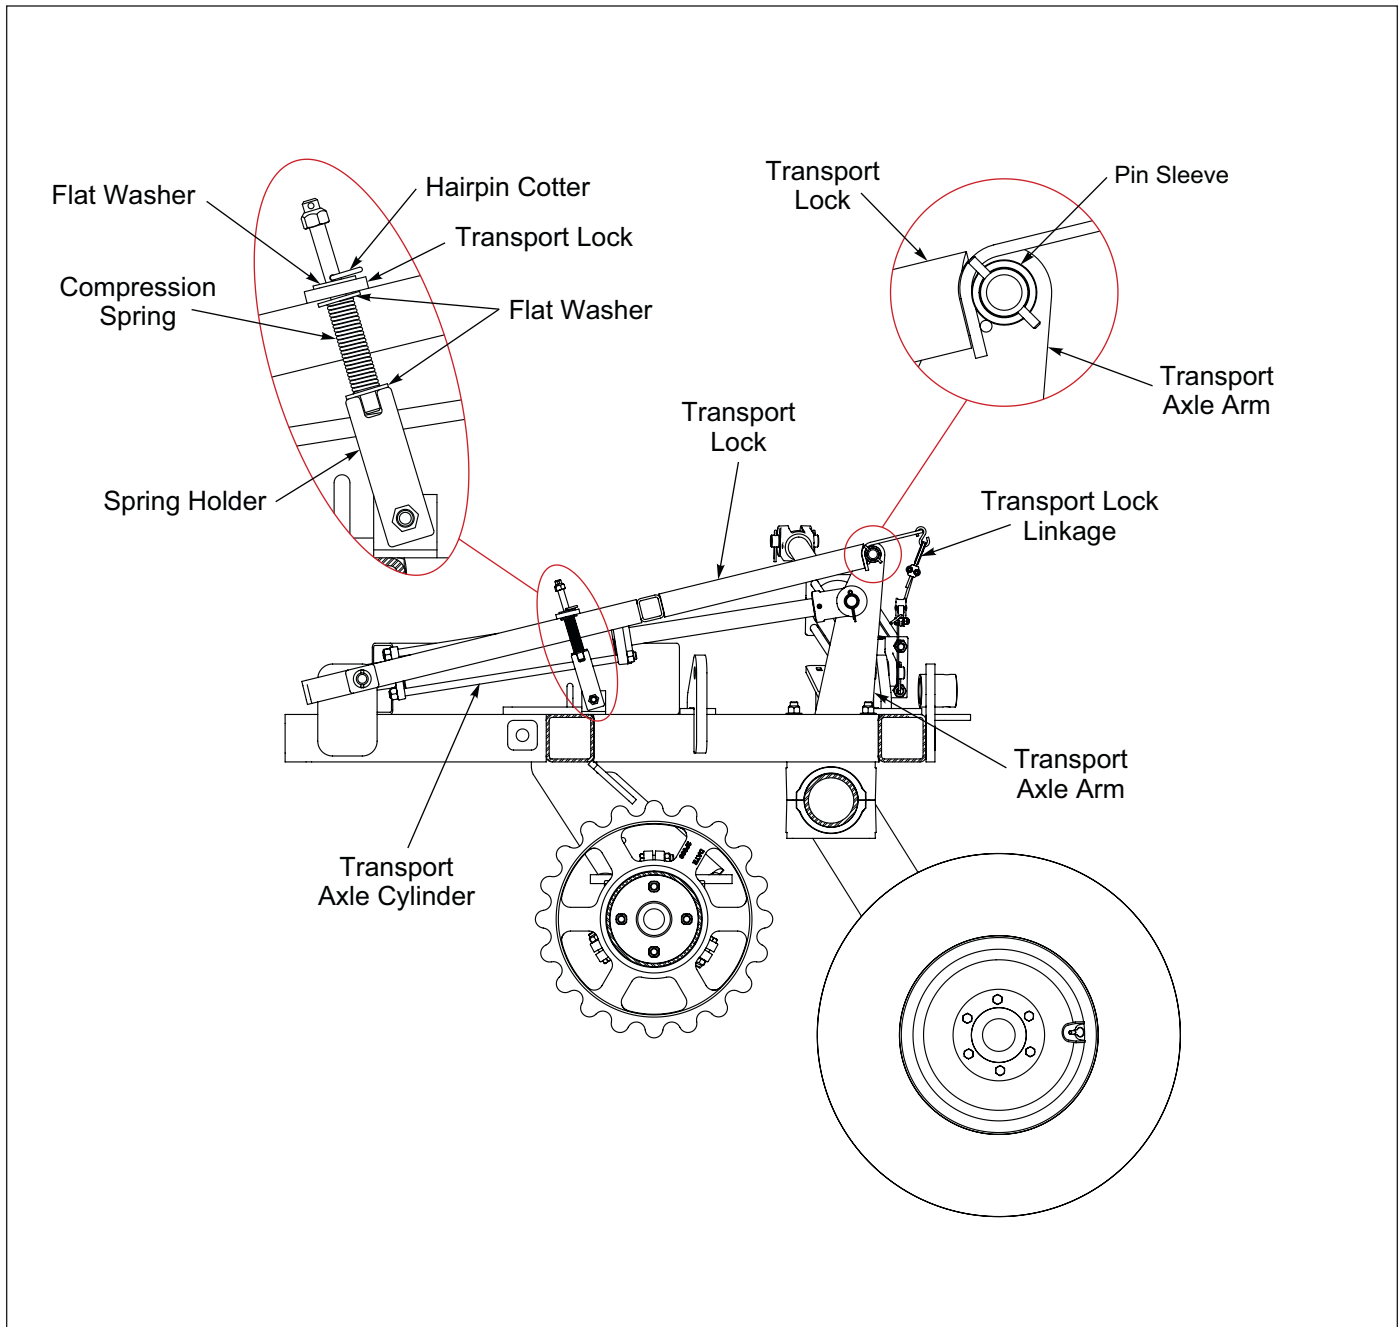

Figure 3-6: Transport Lock - Locked Position
3. Remove the Transport Lock Hairpin Cotter from the top hole of the Spring Holder and insert it into the bottom hole locking the Transport Lock in place. **See Figure 3-6.**